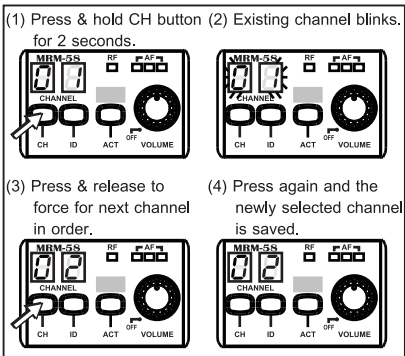

Fig. 4
- (A) MRM-58: Press and hold CH button ⑤ for two seconds, existing channel blinks. During blinking, press and release, the number starts to go forward to the next channel in order (01, 02, 03, ...11, 12, 01,02) every two seconds. Press again, the channel stops blinking and the new channel is saved. Fig. 4